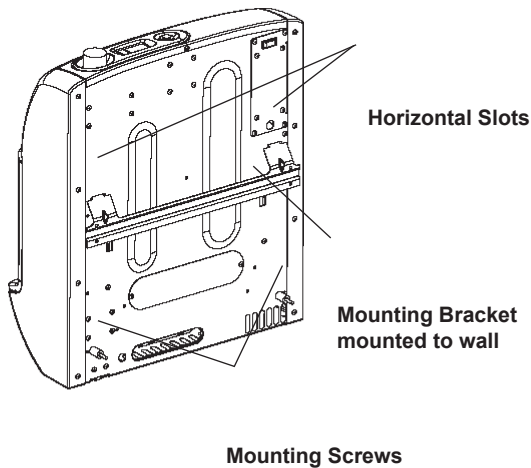

Figure 9
1. Locate two bottom mounting screw holes. These holes are near bottom on back panel of heater (see figure 9).